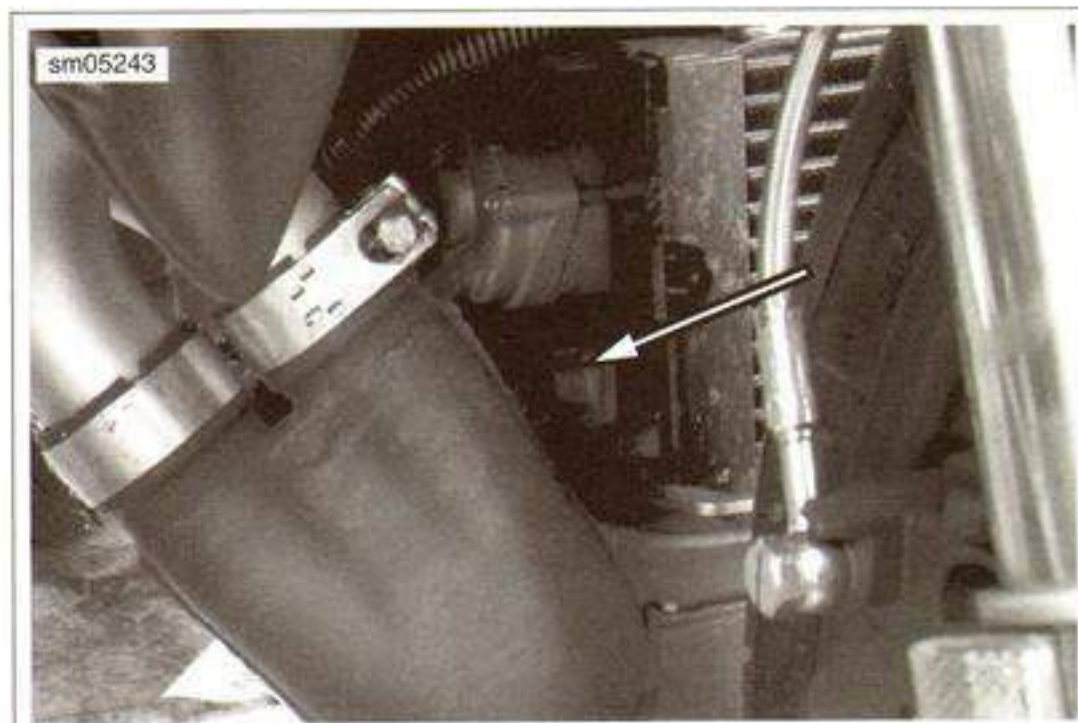

Figure 3-14. Front Muffler Fastener (Right)
1. See Figure 3-14. Remove the right front muffler fastener.
- b. Install lower (3) footpeg support fastener.
- c. See Figure 3-14. Install front right muffler fastener. Do not tighten at this time.
- d. Install front left muffler fastener (1), washer and nut. Do not tighten at this time.